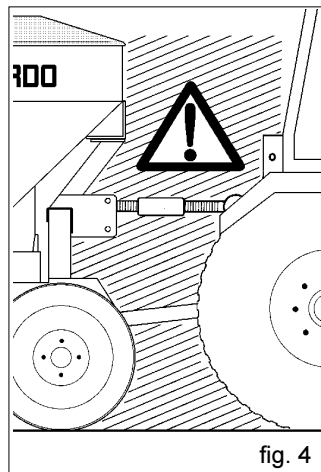

fig. 4
- 25) It is absolutely forbidden to stand between the tractor and linkage for manoeuvring the lifting controls from the outside (Fig. 4).
- 26) It is absolutely forbidden to stand in the space between the tractor and the equipment (Fig. 4) with the engine running. It is possible to work between the tractor and the equipment only after the parking brake has been applied and a suitably sized blocking wedge or stone has been placed under the wheels.